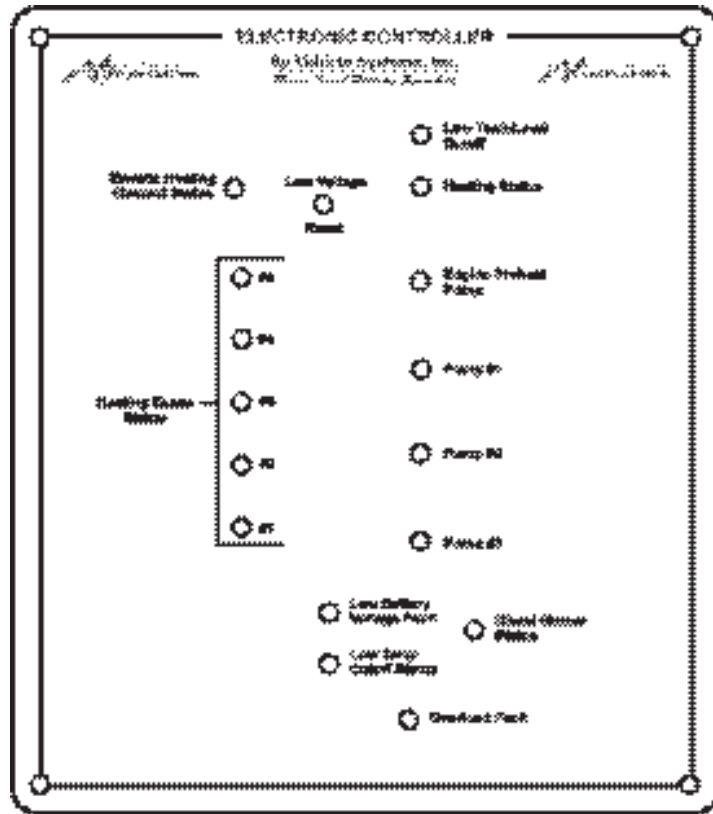

Figure 5
NOTE: The Hydro-Hot’s “Domestic Water Priority System” disables the interior Zone Heating Fans, Zone Circulation Pumps, and the Engine Preheat Pump (if applicable) whenever domestic hot water is being used on a continuous basis (i.e. during showers). Once the demand for continuous domestic hot water ceases the Hydro-Hot will enable the Fans and Pumps to operate and provide heat to the Heating Zones. Please note that the Electronic Controller’s Low Temperature Cutoff Status indicator light will illuminate GREEN whenever the Hydro-Hot is able to provide zone heating, reference Figure 5.
If the Hydro-Hot's Diesel switch "Indicator Light" does not illuminate, and the Diesel-Burner is not functioning, locate the Electronic Controller (Figure 5) and check the following:
- A. Check the Hydro-Hot's Electronic Controller for any RED lights indicating a fault condition. Reference Figure 5 and the Electronic Controller Troubleshooting section to identify these fault conditions.